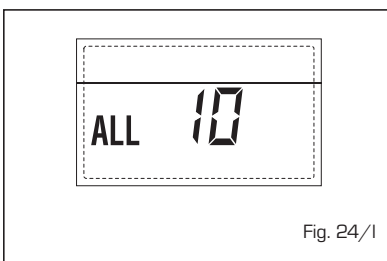

Fig. 24/l
**- ANOMALIA MODULATORE "ALL 11"** (fig. 24/m)